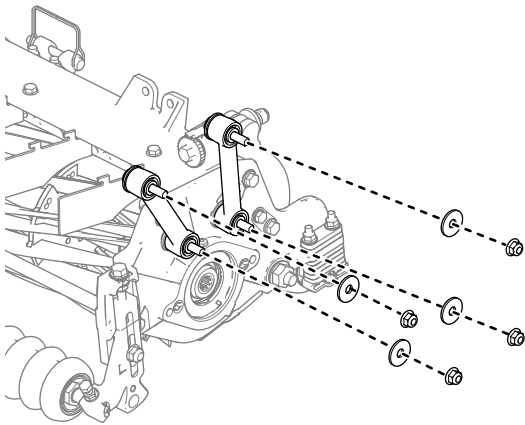

Figure 21
1. Remove the nuts and washers securing the lift links to the cutting-unit side plate and carrier frame (Figure 21). Discard the washers.